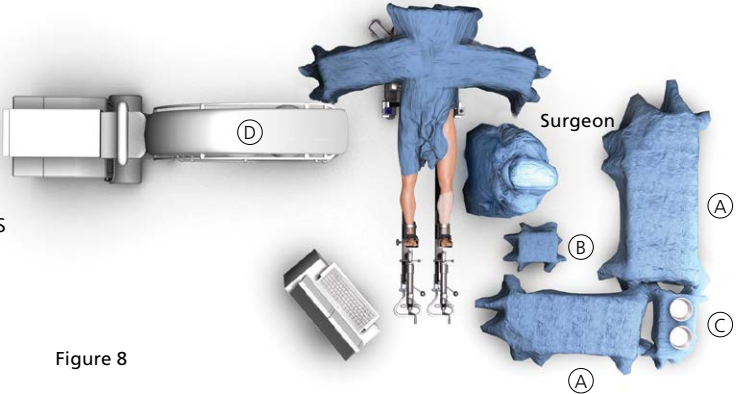

Figure 8
The OR is set up such that the instruments are on the operative side of the patient. Generally, the use of 2 back tables (A), 1 Mayo stand (B) and 1 basin stand (C) is sufficient, creating an L-shaped area. The C-Arm (D) is positioned on the non-operative side, perpendicular to the patient (Figure 8).